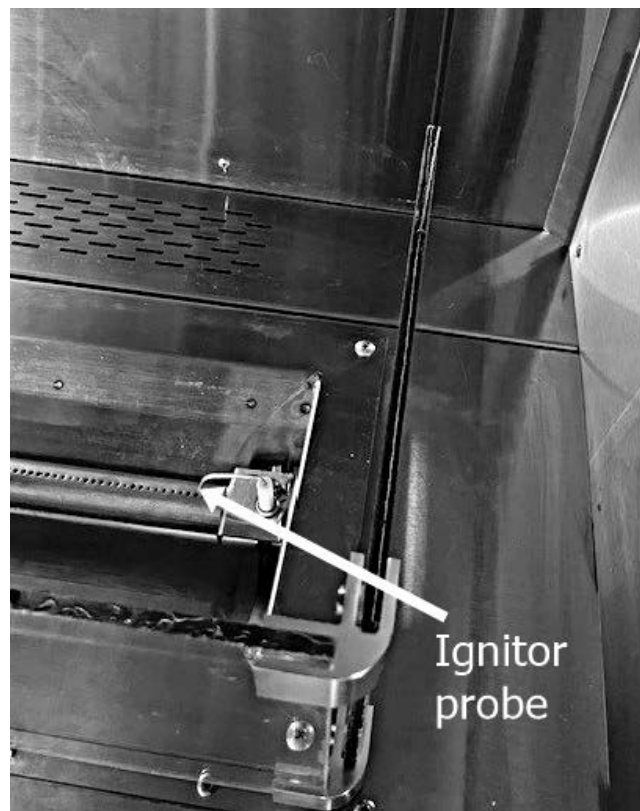

Figure 2
4. Gas should ignite within 5 seconds or less. If fireplace does not light within 5 seconds turn key clockwise to turn OFF the gas supply. Check ignitor probe location (Fig. 2), ensure there is an 1/8" gap between the probe with a good strong spark then repeat steps 2 through 4.